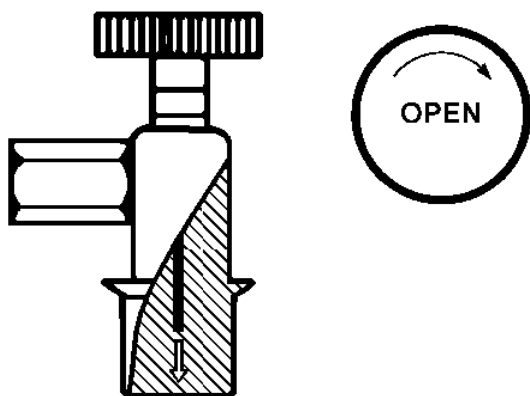

Figure 40 Turning the Quick-Disconnect Fitting Knob Clockwise Lowers a Pin to Open the Valve in the Service Port
Once the quick-disconnect fittings are attached to the service ports, turning the knob **clockwise** (CW) pushes an internal pin down **to open** the service port valve (refer to Figure 40). Turning the knob CCW raises the pin, closing the service port valve. Once closed the quick-disconnect fitting can be removed without venting refrigerant from the system.